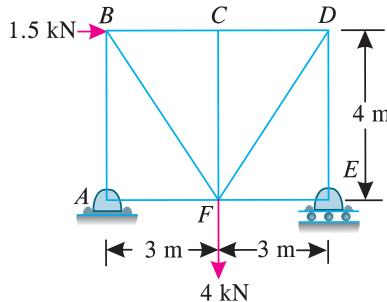

Fig. 13.66.
- 1.** A truss shown in Fig. 13.66 is subjected to two point loads at *B* and *F*. Find the forces in all the members of the truss and tabulate the results.